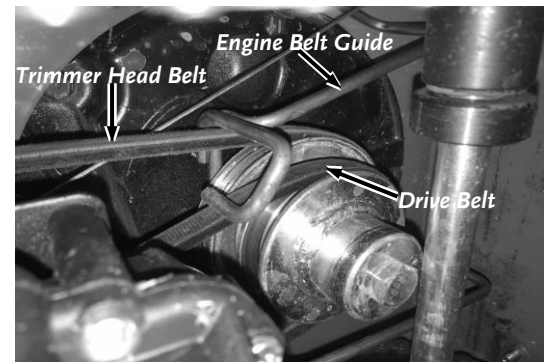

Figure 42
**Note:** Ensure that the Belts are positioned properly in reference to the Belt Guides (**Figure 42**).